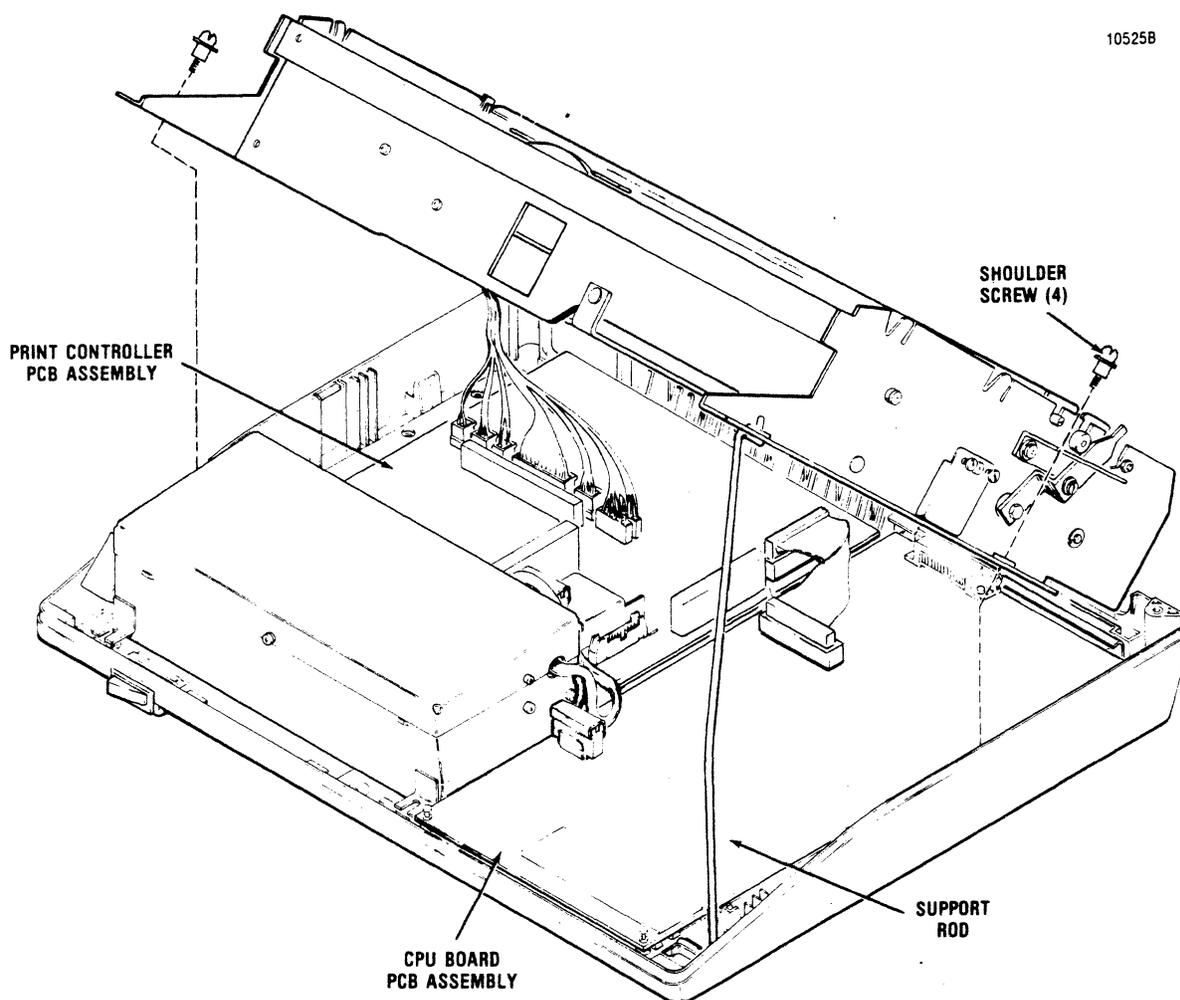

Figure 3-6 Tilting Printer Mechanism
The printer mechanism, illustrated in Figures 3-6 and 3-7, contains the frame assemblies and most of the mechanical assemblies used in the printer.
3.10.1 TILTING PRINTER MECHANISM—To place the mechanism in tilt position, refer to Figure 3-6 and perform the following steps: